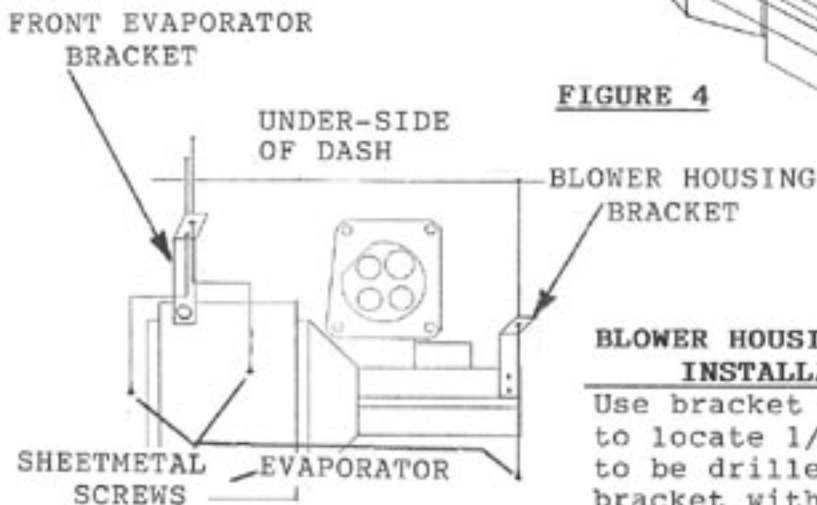

FIGURE 4B
8. The front of the evaporator is supported by the bracket on the front of the evaporator unit. Use this bracket as a template to locate the 1/8" holes to be drilled. After holes are drilled, secure bracket with sheetmetal screws (supplied) as Figure 4B shows.
Use bracket as template to locate 1/8" hole to be drilled. Attach bracket with sheetmetal screw as Figure 4B shows.